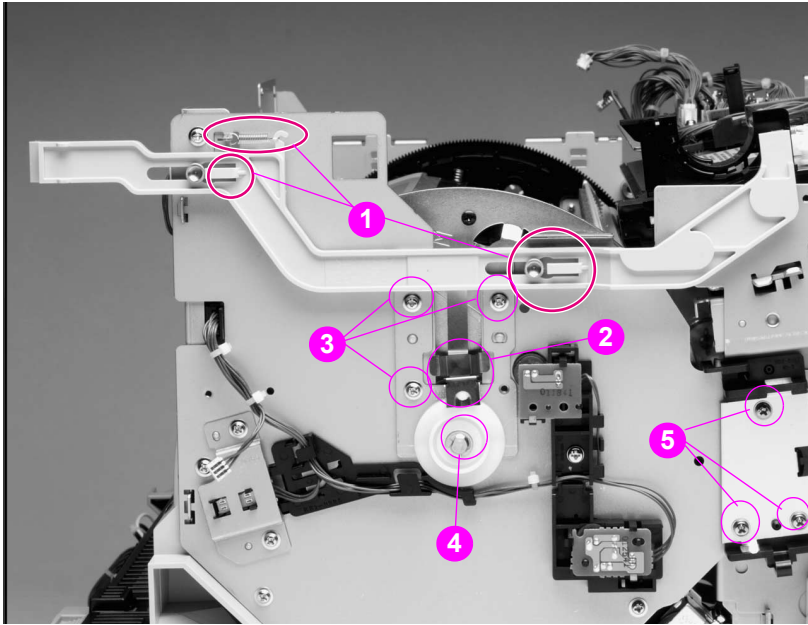

Figure 6-66 Cartridge carousel replacement - face-down delivery rod (4 of 6)
21 Remove the interlock delivery rod (see Figure 6-66, callout 1).
- 23 Remove the carousel grounding plate (see Figure 6-66, callout 2) and the carousel position plate from the carousel mouting plate (see Figure 6-66, callout 3) on the printer’s right side.
- 25 Using a flat-bladed screwdriver, remove the clip securing the grounding cam and lift off the grounding cam (see Figure 6-66, callout 4).
- 26 Remove the drum bushing assembly (see Figure 6-66, callout 5).